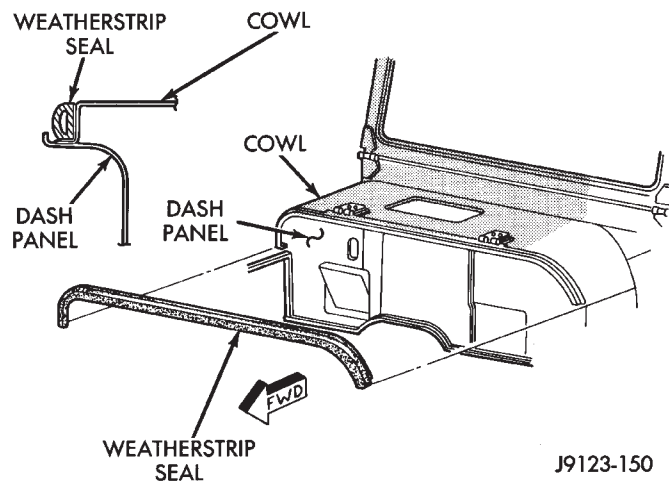

Fig. 15 Cowl Weatherstrip Seal
- (1) Carefully separate the seal from the cowl/dash panel flange (Fig. 15).
- (2) Position the seal on the cowl/dash panel flange (Fig. 15) and press it against the panel edge.